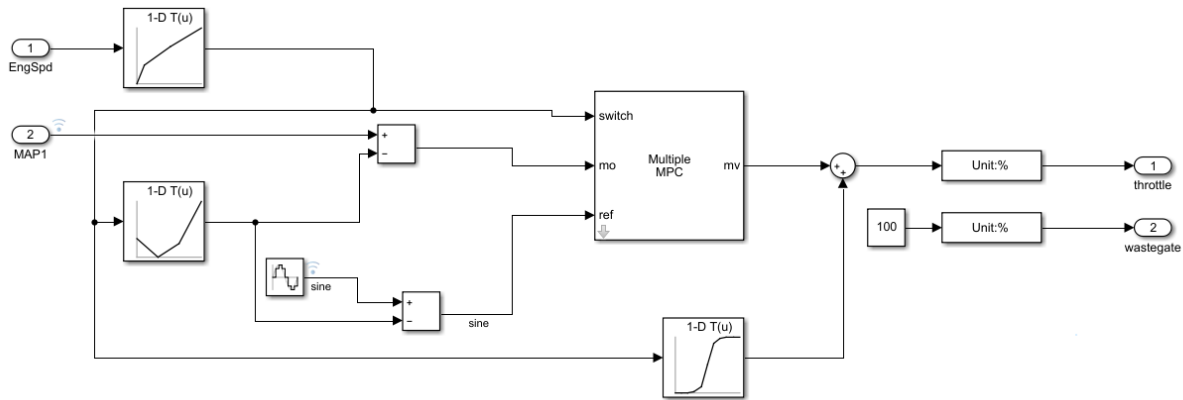

Figure 5: MPC Block Implementation
- Note that Figure 5 is for differential actuator-MAP models (see MATLAB's 'detrend' function', which is used in the GenerateMPCDesigns). (Actuator means either throttle or wastegate). The RunMe produces differential models.